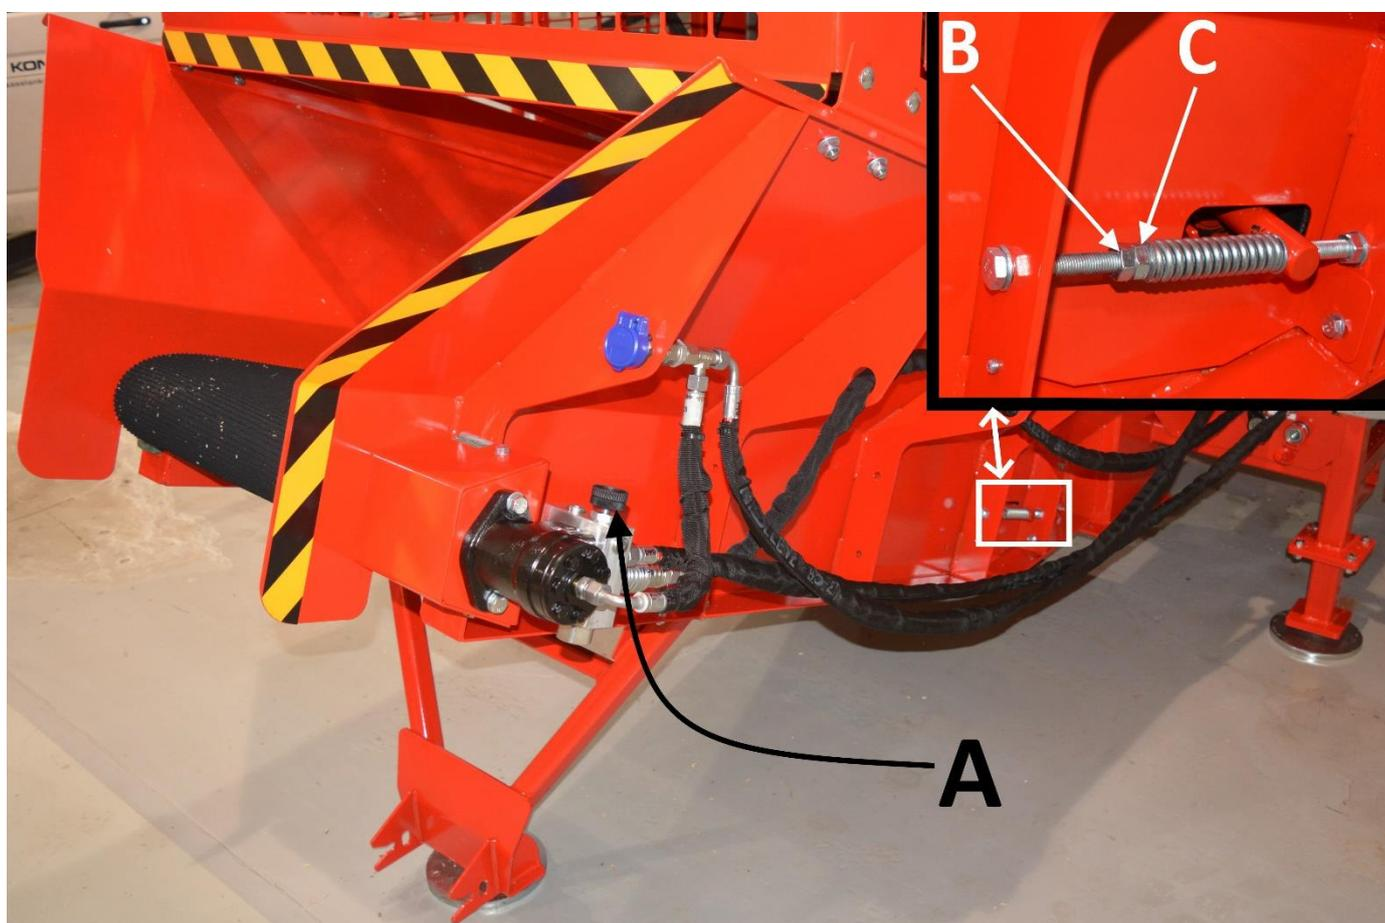

Figure 29.
The running speed of the out-feed conveyor can be freely adjusted with adjustment screw A (Figure 29). If the conveyor is jammed for any reason, the conveyor must be stopped with lever E (Figure 9) and the machine shut down before the cause is removed. If the issue is at the end of the conveyor (a piece of wood is stuck between the conveyor and possible extension conveyor), the conveyor belt can be reversed for a short distance with lever E (Figure 9).
1. Loosen fastening nut B (Figure 29).
2. Tighten/loosen the belt with nut C in Figure 29 (the same amount on both sides of the belt). If the belt is crooked, loosen nut C (in relation to the spring) on the side towards which you wish to align the belt better.